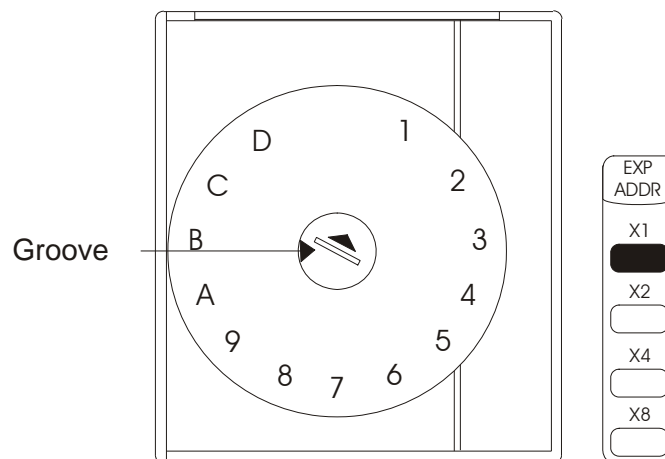

Figure 17-3 Expansion Module Rotary Frame Number Selector Switch and Expansion Address LEDs
- 2) Insert a small flat screwdriver into the groove on the rotary frame number selector. See Figure 17-3.